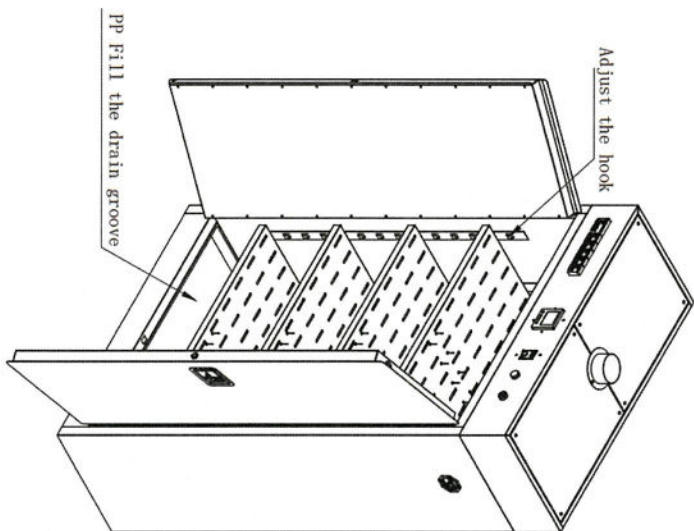

Figure 3
2.Application of the adjustment and drainage groove of the laminate: As shown in Figure 3, the user can adjust the height of the laminate according to the actual use needs, and check that the four sides of the laminate are installed in the adjustment hook after adjusting the height. The PP leakage tank at the bottom of the cabinet can hold corrosive liquids such as electrolyte generated by battery leakage, please use special adsorption materials for waste liquid recycling and disposal.